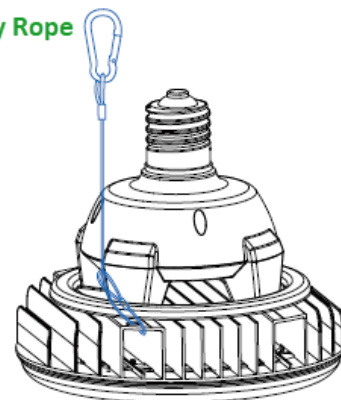

Fig. 2
3. Make sure the alternating current wires connect to the E39 socket directly. (Reattach or replace ground lead if one is needed). (Fig. 2)